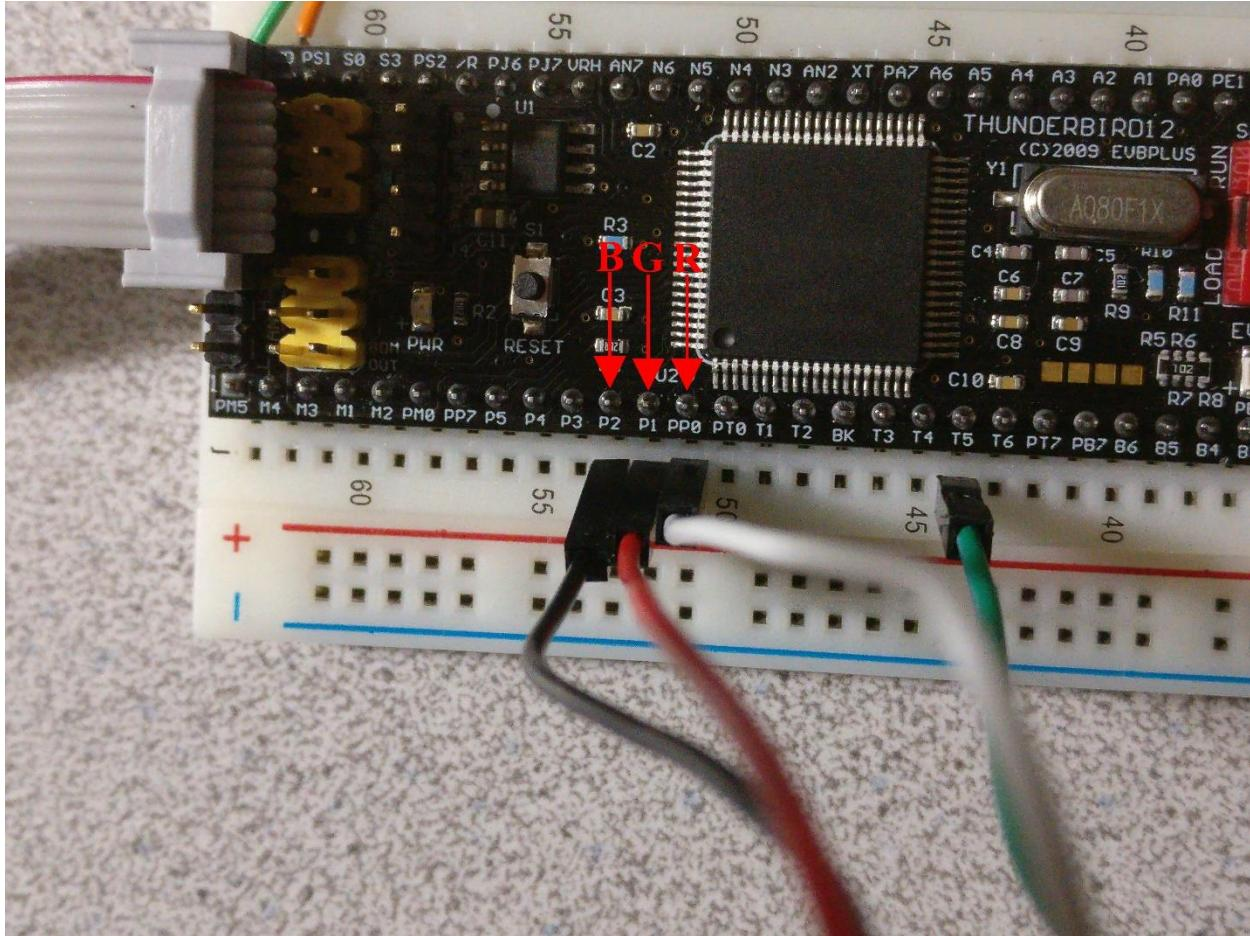

Figure 8-13 – RGB LED module connected to PP0, P1, and P2
- b. Connect the R, B, and G wires from the RGB LED module to PP0, P1, and P2, respectively, on the bottom row of the Thunderbird. Refer to Figure 8-13 for an example of what the wiring should look like.